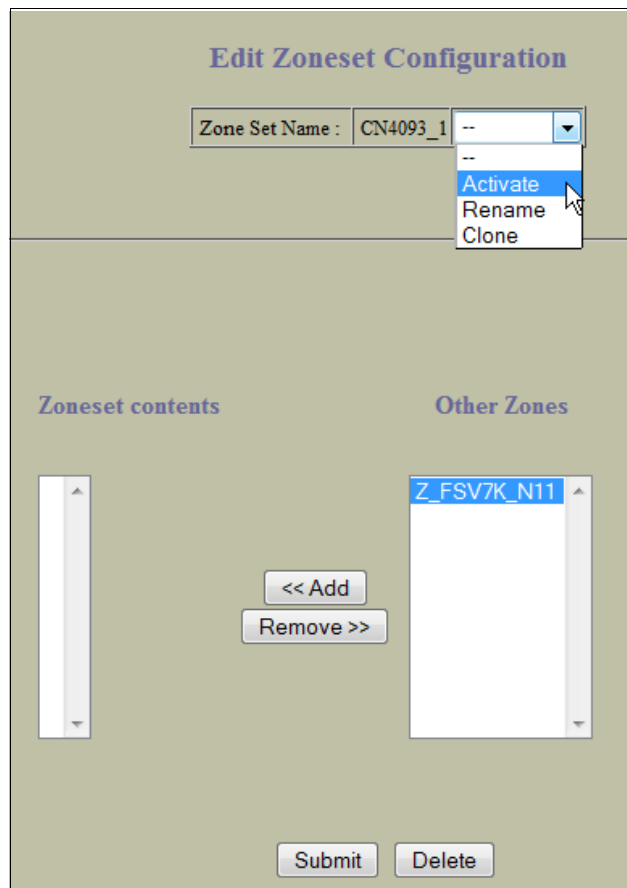

Figure 8-18 Submit Zoneset Configuration
17. Click **Submit** as shown in Figure 8-18.